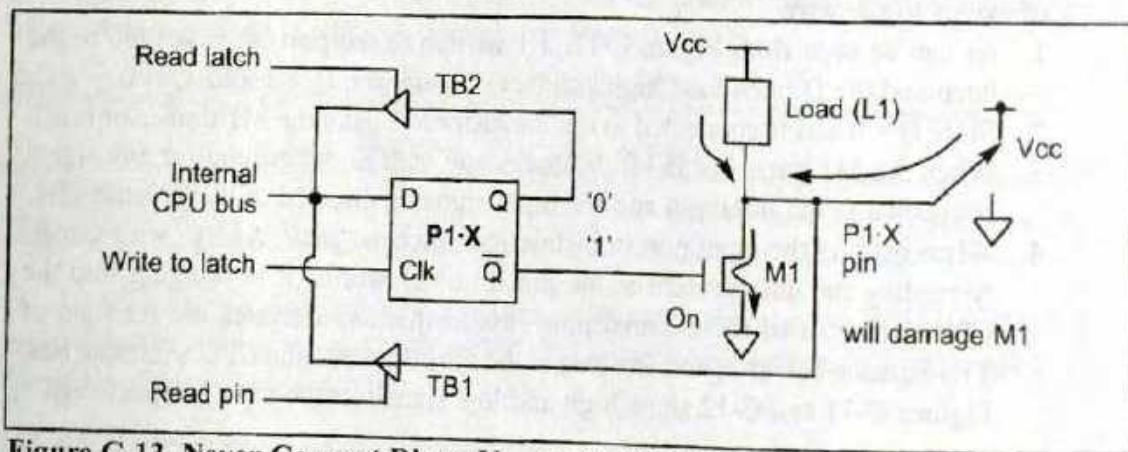
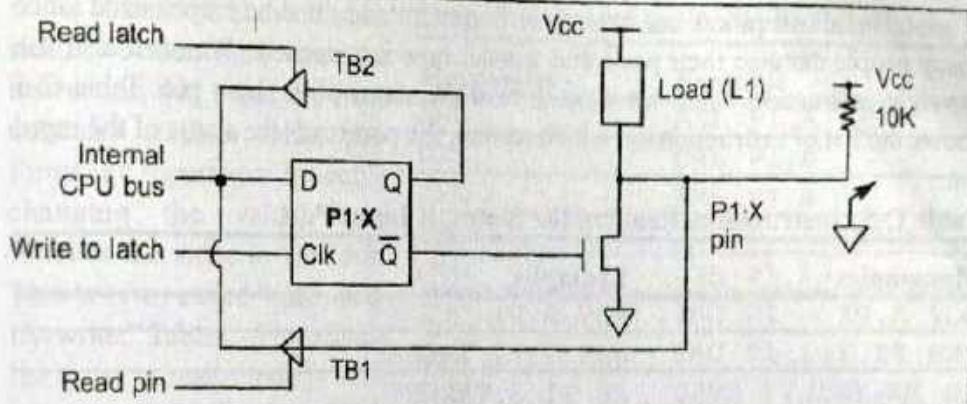

Figure C-13. Never Connect Direct V_{CC} to the 8051 Port Pin
Figure C-14. Input Switch with Pull-Up Resistor
The above discussion showed why we must write a "high" to a port's bits in order to make it an input port. What happens if we write a "0" to a port that was configured as an input port? From Figure C-13 we see that if we write a 0 (low) to port bits, then $Q = 0$ and $\bar{Q} = 1$. As a result of $\bar{Q} = 1$, the M1 transistor is "on". If M1 is "on," it provides the path to ground for both L1 and the input pin. Therefore, any attempt to read the input pin will always get the "low" ground signal regardless of the status of the input pin. This can also damage the port, as explained next.
We must be very careful when connecting a switch to an input port of the 8051. This is due to the fact that the wrong kind of connection can damage the port. Look at Figure C-13. If a switch with V_{CC} and ground is connected directly to the pin and the M1 transistor is "on" it will sink current from both internal load L1 and external V_{CC} . This can be too much current for M1, which will blow the transistor and, as a result, damage the port bit. There are several ways to avoid this problem. They are shown in Figures C-14, C-15, and C-16.
1. One way is to have a 10K-ohm resistor on the V_{CC} path to limit current flow through the M1 transistor. See Figure C-14.